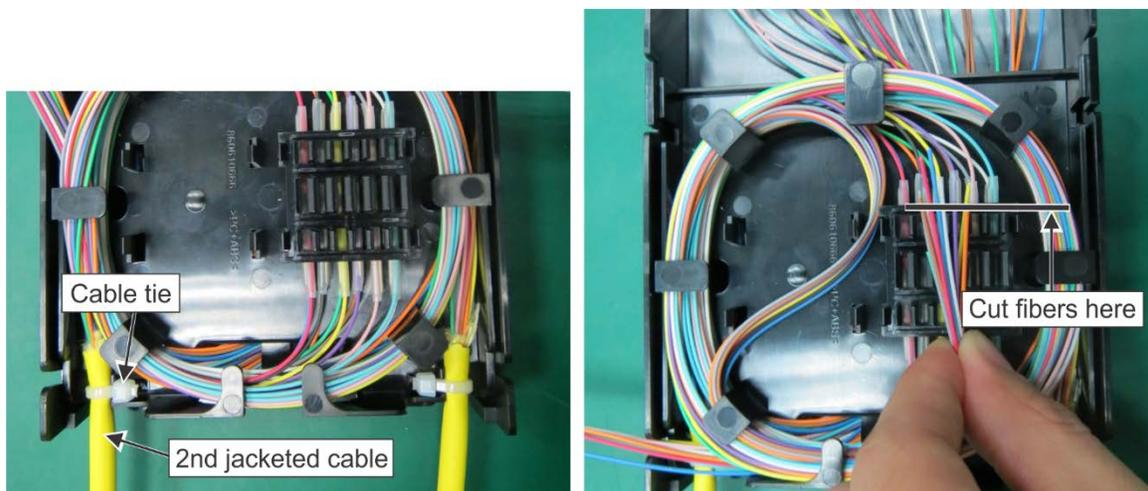

Figure 7. Prepare 2nd Incoming Cable
3. Loop fibers in an “S” configuration in the cassette as shown above to determine required length for splicing, then cut at location marked for 1st or 2nd loop (Figure 7, right picture).